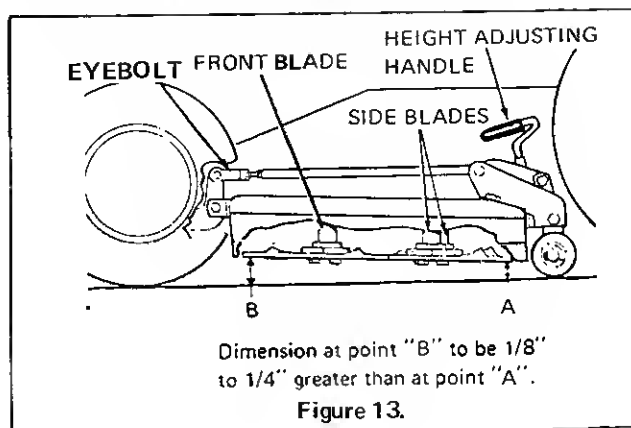

Figure 13.
6. See Figure 13. With the tractor and mower on a level surface rotate the three blades so that the blade tips are pointed toward the front of the mower. Measure the distance from the front tip of the center blade to the ground. Then measure the height of the rear tips of side blades. The front tip of center blade should be 1/4 inch higher than rear tip of side blades. The rear tips of right and left side blades should be the same distance above ground.